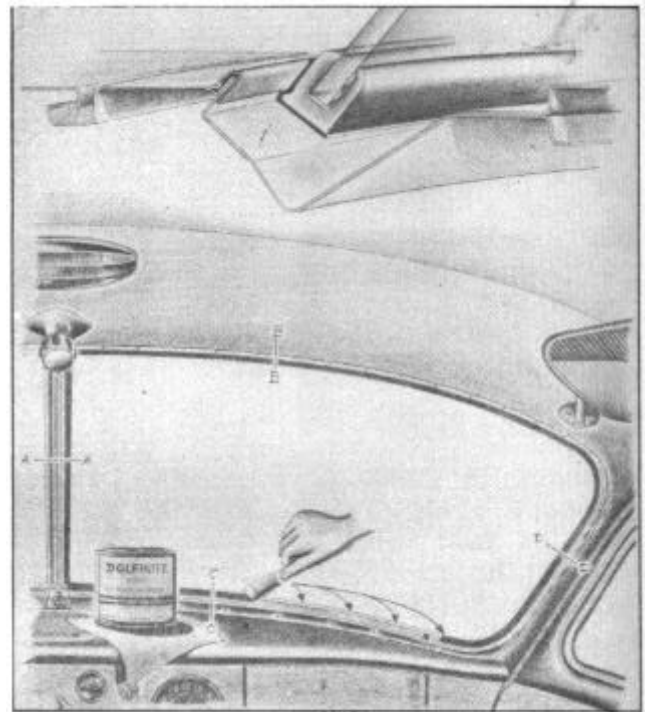

FIGURE 23
1. Remove all old windshield sealer. With a putty knife apply enough new sealer around windshield opening to squeeze out when glass is installed, Figure 23. Mask off the upholstery material around the windshield opening to prevent soiling during the installation.